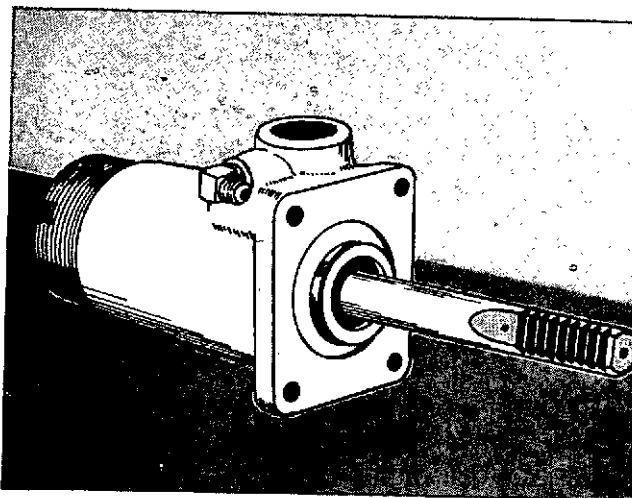

Fig. 4-34. Install The Actuator Shaft.
18. Install the actuator shaft. Push the shaft threaded end first, through the sealing ring and shaft guide and into the plunger bore, Fig. 4-34. Make sure the shaft goes all the way into the plunger bore.